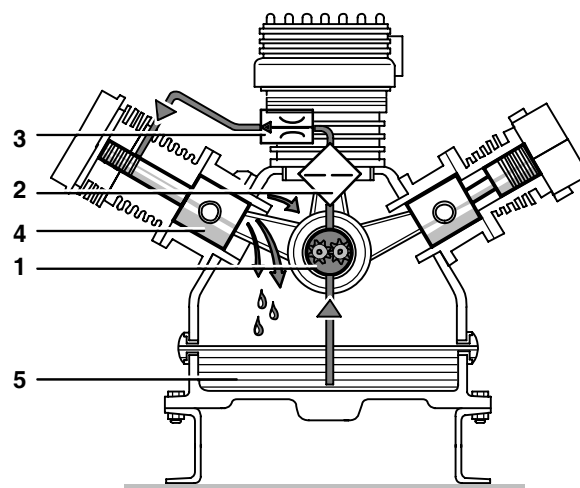

Fig. 27 Lube oil circuit
The oil pump (1, Fig. 27) is coupled to and driven by the crankshaft. It pumps oil from the oil sump (5) through the oil fine filter (2) and a minimum pressure valve (3) to the 3rd stage cylinder. The oil is then distributed by the guide piston of the 3rd stage (4) and lubricates all moving parts of the compressor block.